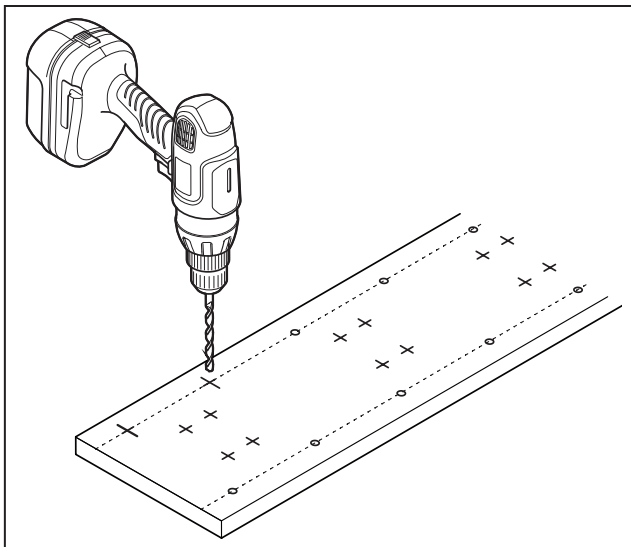

Figure 7
8. Drill pilot holes for the stud and bracket installation in the header with an 1/8" drill bit (Figure 7).